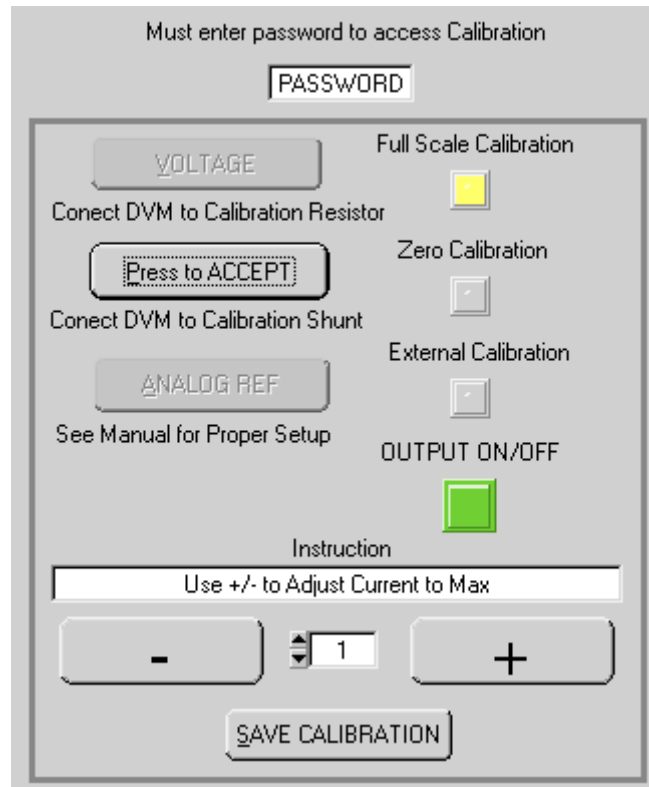

FIGURE 4-3. CURRENT CALIBRATION WINDOW
1. Click the **CURRENT** button on the Calibration Window to start current calibration; the Current Calibration Window (Figure 4-3) appears and the status display on the VXI main panel reads **CMAX**.